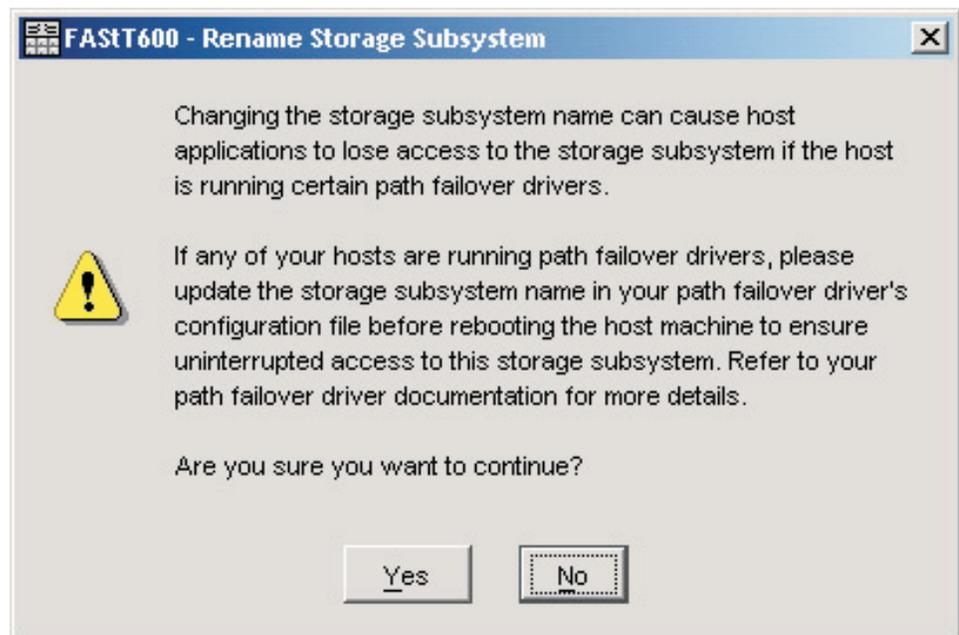

Figure 26. Rename Storage Subsystem window
1. In the Enterprise Management window, Right-click the storage subsystem and select **Rename**. The Rename Storage Subsystem window opens as shown in Figure 26.